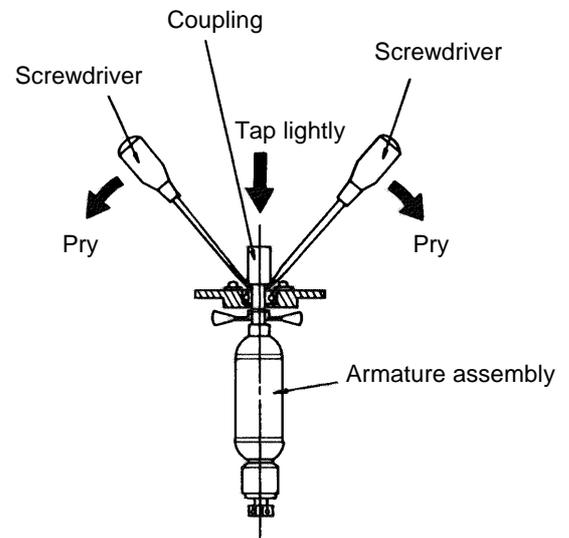

Fig. 2
- (1) As illustrated in Fig. 2, raise the Coupling ㉗ slightly with a screwdriver or similar tool to partially remove it.
- (2) Push the Coupling on again by tapping it lightly with a wooden hammer.
- (3) Repeat steps (1) and (2) several times until the rust is freed and the Coupling can be fully removed.